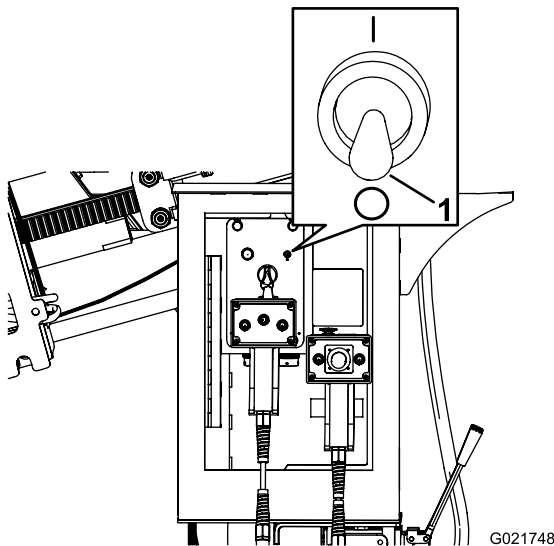

Figure 155
2. Ensure that the spray-hose attachment switch is in the Off position (Figure 155).